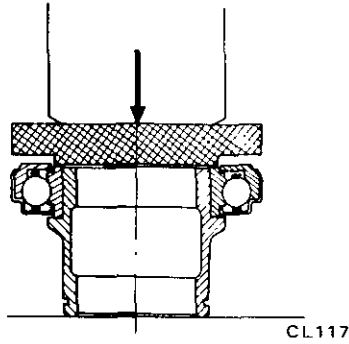

Fig. CL-10 Installing release bearing
1. Assemble release bearing on sleeve, using a press. See Figure CL-10.